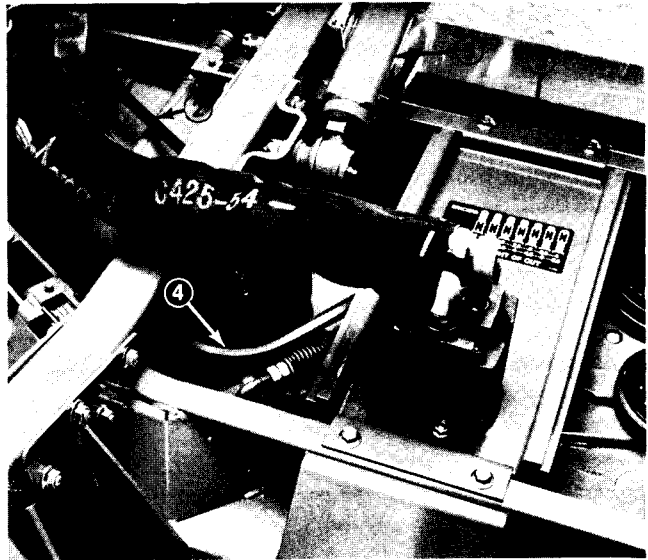

Figure 20
1. Remove belt covers. Lift each wing to release idler pulley tension and slip belt off pulleys (Fig 20).
3. Remove flange head screws securing gearbox plate and separate plate and drive motor assembly from the cutting unit (Fig. 20). Be careful not to bend, twist, kink or damage flexible hydraulic lines.